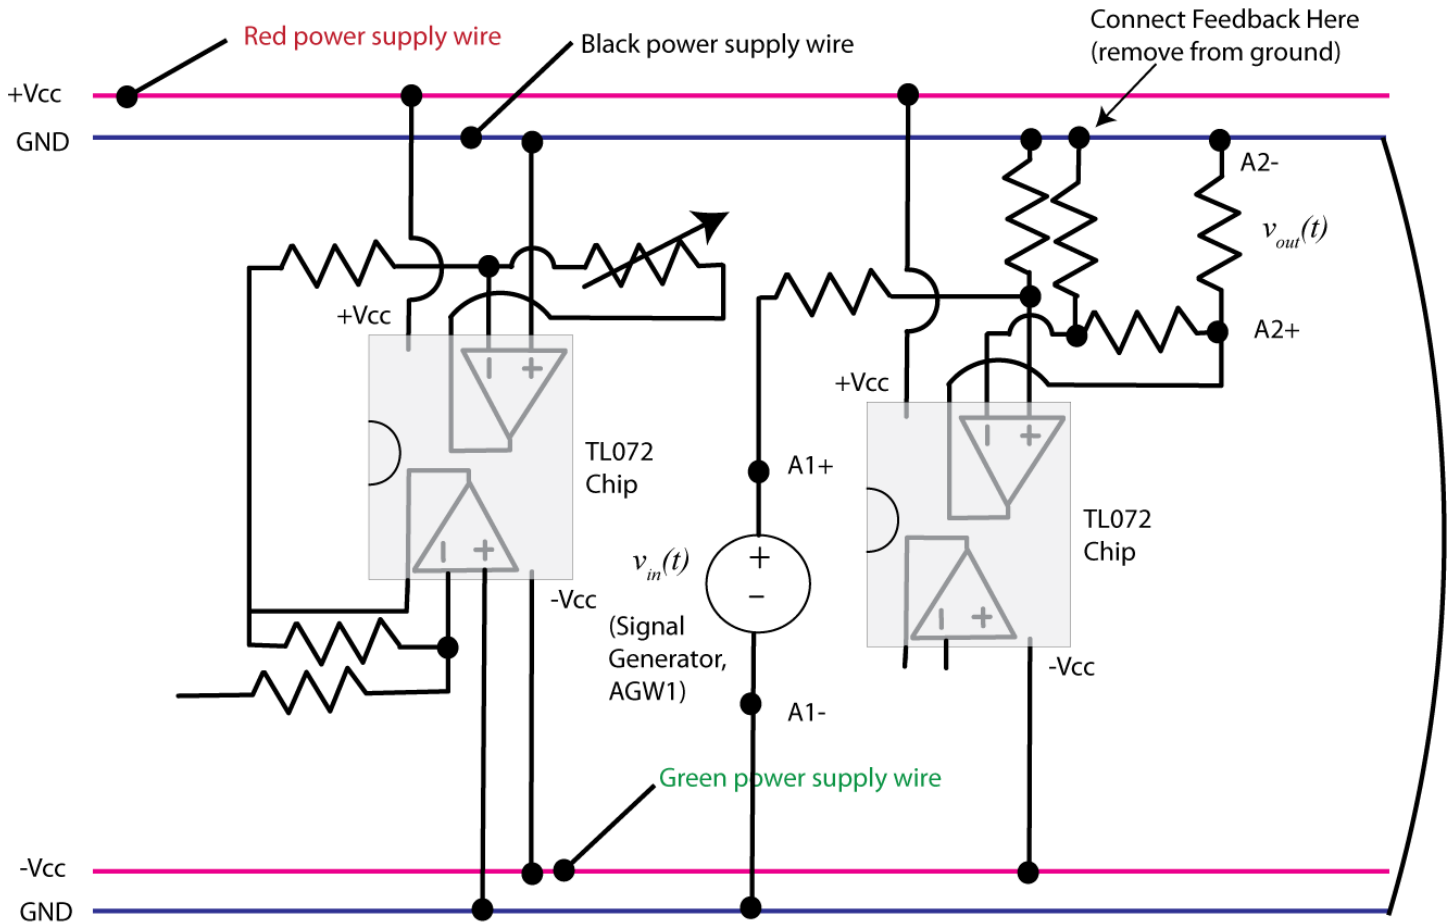

Figure 3. Differential amplifier circuit.
2) Build the differential amplifier, shown in Figure 3. Note that at this point we have connected the feedback input to ground. We have also offset it a bit so we will be able to get a feedback wire to it (it would seem easier to go directly to ground from the negative terminal, but that will cause problems later.) Again, we have included a load resistor to measure the output for debugging purposes. You should use a single chip for this (and waste an op amp) so your circuit will be easier to debug. Do not connect this to the prefilter circuit yet, but you should put this close to your prefilter so you will have room on your board for the rest of the circuit. Connect the signal generator to the input of this circuit and measure the output. They should be equal, if they are not you need to check your wiring.